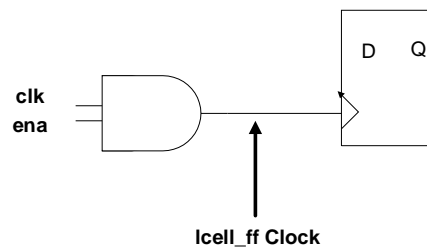

Figure 11 - Grouping of clock and clock enable pairs to form lcell_ff clocks
1. All **clk** and **ena** signals on an lcell_ff are paired to form an register clock (see Figure 11). In any LAB, there can be no more than 3 distinct clock pairs.